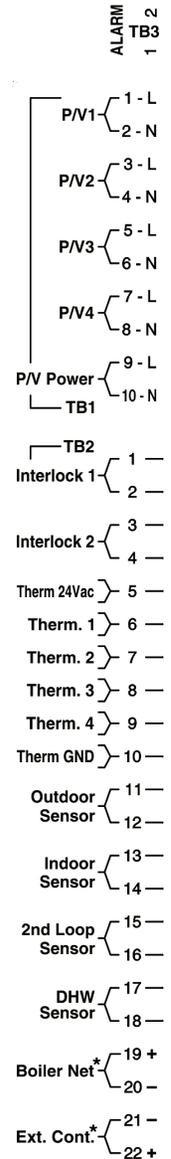

Figure 12 Controller's wiring strip
The controller is compatible with most common thermostats including simple single contact types (for example, a mercury switch) as well as most power-stealing-type thermostats. The standard connection for common thermostats provides a simple contact closure for the boiler (see the electrical diagrams in the Appendices on page 97). For example, Therm 1 will activate Pump 1, Therm 2 will activate Pump 2, etc (see Figure 12).
You can wire up to four load pumps to the load pump terminal labeled P/V1 (Pump/Valve1), P/V2, P/V3, and P/V4 (see Figure 12). The top pair P/V1 - 1 L(live) and 2 N(neutral) is reserved for Load 1, the second pair P/V2 - 3 L and 4 N is reserved for Load 2 etc.
- » **Aquastat:** Set up a call for heat for DHW by using an aquastat that is wired to a Therm 1, 2, 3, or 4 connection (see Figure 12).
- » **DHW sensor:** Use a DHW thermister (10K ohm type-2 sensor) to connect to the "DHW Sensor" 17 and 18 terminal connections (see Figure 12). With this method, the Therm connection corresponding to the DHW pump is not used.
The controller provides a relay dry contact connection to indicate the boiler's alarm state externally. This can be used, for example, to connect to an external alarm panel or an indicator light. The terminals on TB3 (see Figure 12) supply the wiring connection. To access the TB3 connection, disconnect electrical power to the boiler, and remove the controller front cover.
Connections are provided at TB2 (see Figure 12) Ext. Cont. -/+ to receive a 0-10VDC or 4-20 mA signal for external control. The default configuration is **0-10VDC** (JPA01A installed).
Cable	<p>Polarity-sensitive twisted 2-wire leads (CAN bus standard) to join one boiler to the next (to a maximum of 24 boilers). Connection made between the "Boiler Net" terminals #19 and #20 (see Figure 12).</p> <p>Specifications for the cable:</p> <ul style="list-style-type: none"> » 24 AWG shielded twisted pair » 9 twists / ft » Capacitance 12.5pF/ft (cond./cond.) » Resistance 25.5 ohms/1000 ft